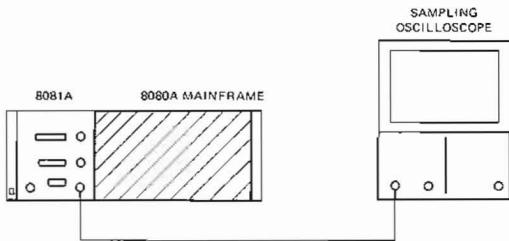

Figure 4-2. Trigger Output Test Setup
- Set up the equipment as shown in figure 4-2 and set the controls as follows: